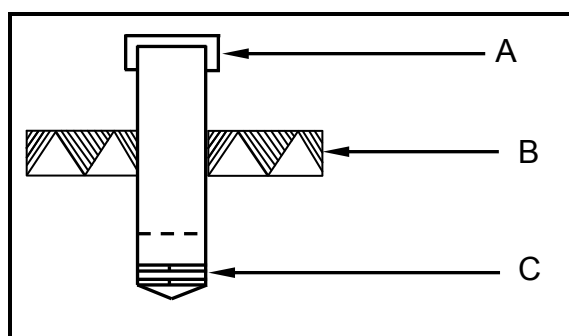

FIGURE 2.6
- 2.6 FIGURE 2.6 below shows a sketch of a precast concrete pile driven into the ground.